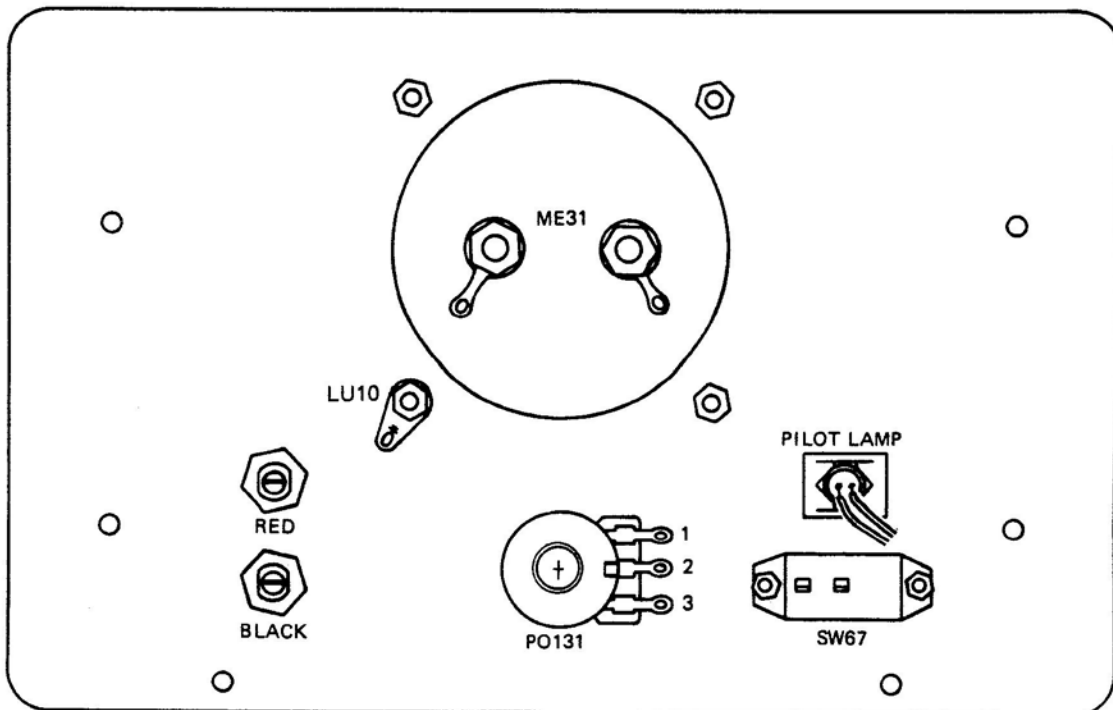

Fig. 3. Rear view of the front panel with the parts in place.
Figure 3 shows the parts installed on the front panel (PA61), looking at the rear of the panel.
(1) Insert the red jack through the hole in the front of the panel marked with the plus (+) sign, and secure it by threading the nut provided on the back of the panel. Tighten the nut securely
(2) Insert the black jack through the hole in the front of the panel marked with the minus (-) sign, and secure it by threading the nut provided on the back of the panel. Tighten it securely
(3) Place the control lockwasher over the bushing of the 10k-ohm control. Insert the 10k-ohm potentiometer through the back of the panel in the 3/8" hole in the lower center of the panel. Place a flat washer and a control nut over the bushing. Position the terminals on the potentiometer as shown in Fig. 3, and then tighten the nut to hold the potentiometer
(4) Locate two 3/8" X 6-32 black Phillips head screws and insert them through the holes adjacent to the words OFF and ON on the front of the panel. Hold the screws in place and turn the panel over. Then put the on-off switch into place over the screws. Notice that the two terminals on the on-off switch are toward the center of the panel. Now put a lockwasher on each screw and then a 6-32 hex nut and tighten securely.
(5) Insert the leads on the pilot light assembly through the hole beneath the word POWER on the front of the panel and then push the light assembly firmly up against the front panel. Slide the spring clip over the leads and over the barrel of the light until it is pressed firmly against the rear of the panel. If the pilot light is not held firmly in place, it is because you haven't pushed the clip against the back of the panel firmly enough
(6) Mount the meter on the front of the panel. The barrel goes through the large hole and the four mounting screws through the four small holes. Slip a solder lug over the lower left mounting screw and position it as shown in Fig. 3. Place